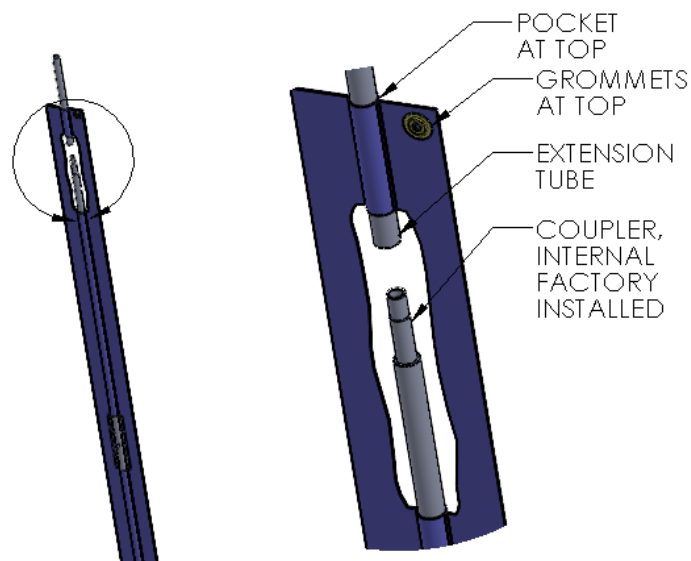

Figure 2 Install Extension Tube(s)
2. Locate the fiberglass Extension Tube(s) and Locate the opening at the top (Grommeted edge) of the Cam Lock edge/leading edge (Figure 2 Install Extension Tube)
3. Insert the Tube into the centermost pocket/ folds (between mesh material for Bug Blocking Curtain) until it engages the splice/coupler below. To fully seat the stiffener extension tube you may have to tap the end. When fully seated, the tube will be about 3” below the top edge of the Curtain. (Figure 2 Install Extension Tube)